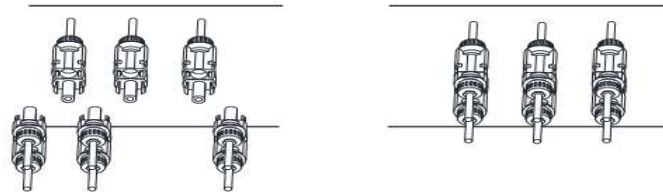

Figure 2.11 The DC connector is inserted into the positive and negative input of the hybrid inverter equipment.
4. Finally, insert the photovoltaic DC connector into the positive and negative input of the Hybrid inverter, as shown in figure 2.11.